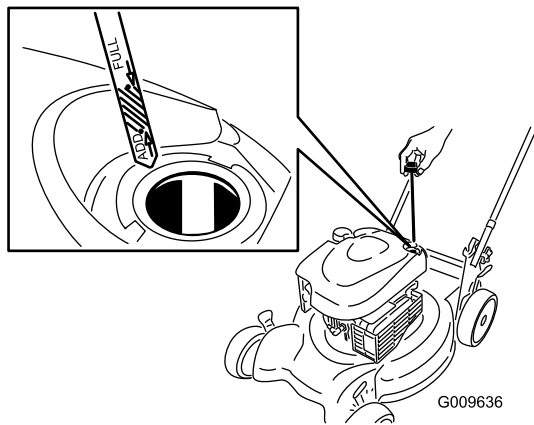

Figure 7
1. Remove the dipstick, wipe it clean, and fully install the dipstick (Figure 7).
2. Remove the dipstick and check the oil level (Figure 7). If the oil level is below the **Add** mark on the dipstick, slowly pour oil into the oil fill tube to raise the oil level to the **Full** mark on the dipstick. **Do not overfill.** (Max. fill: 20 oz. (0.59 l), type: SAE 30 detergent oil with an API service classification of SF, SG, SH, SJ, SL, or higher.)